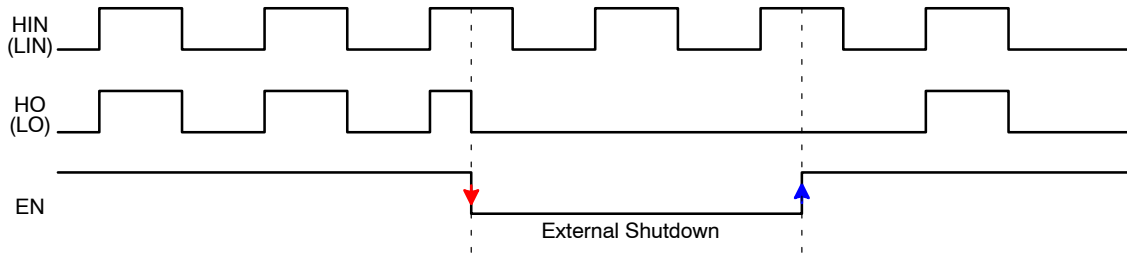

Figure 27. Timing Chart of Enable Function
Enable (EN) is internally pulled low to SGND so the driver is always defaulted to a disabled output status. Similar to HIN and LIN, EN is a Schmitt trigger TTL compatible input. Pulling the EN pin above 2.5 V maximum, enables the outputs, placing the NCP51820 into an active ready state. Due to the nature of high-speed switching associated with GaN power stages, and for improved noise immunity, it is recommended to connect the EN pin to VDD through a 1 kΩ (or less) pull-up resistor. For applications where the EN pin is actively controlled, the EN pin can be driven direct but should be bypassed with a 10 nF decoupling capacitor. As shown in Figure 27, if EN is pulled low during normal operation, the driver outputs are immediately disabled, even terminating an active HIN or LIN pulse mid-cycle during the on-time. When EN is toggled high, during normal operation, a cycle-by-cycle, edge-triggered logic function is employed to prevent shortened, erroneous control pulses from being processed by the output. This behavior is highlighted in Figure 27, where EN transitions high at the same time the HIN (or LIN) input pulse is high. In this way, the NCP51820 is intelligent by waiting until the next rising edge to process the full input signal to the output driver stage.